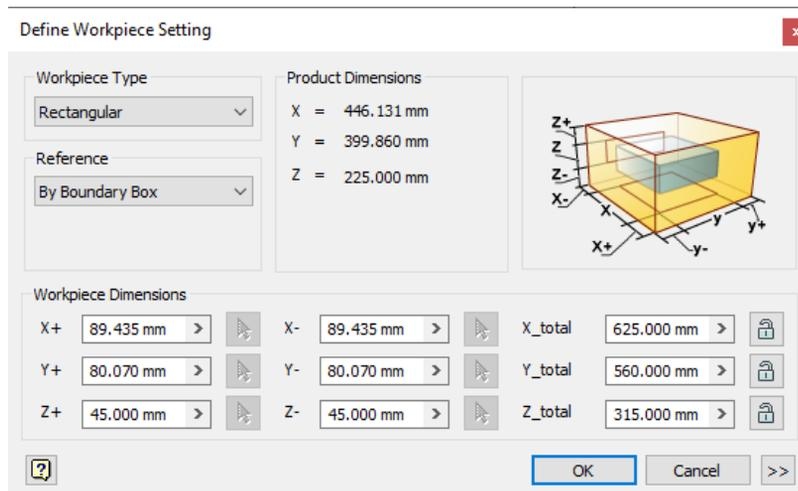

Figure 19-50 The Define Workpiece Setting dialog box
- Choose the **Define Workpiece Setting** tool from the **Parting Design** panel in the **Core/Cavity** tab of the **Ribbon**; the **Define Workpiece Setting** dialog box is displayed, as shown in Figure 19-50.